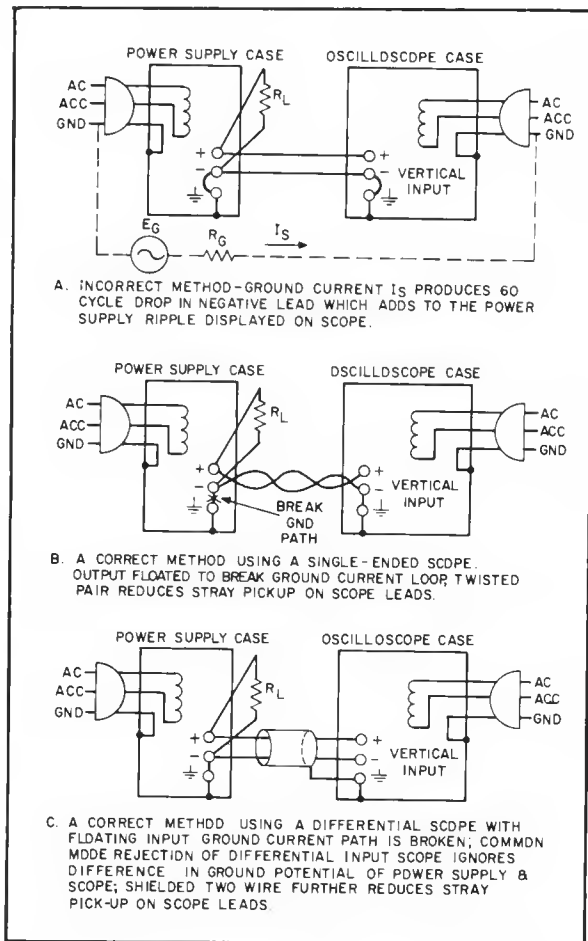

Figure 5-3. Ripple and Noise, Test Setup
- a. Connect test setup as shown in Figure 5-3.
**5-22 Ripple and Noise Measurement.** Figure 5-3 shows an incorrect method of measuring p-p ripple. Note that a continuous ground loop exists from the third wire of the input power cord of the supply to the third wire of the input power cord of the oscilloscope via the grounded power supply case, the wire between the negative output terminal of the power supply and the vertical input of the scope, and the grounded scope case. Any ground current circulating in this loop as a result of the difference in potential  $E_G$  between the two ground points causes an IR drop which is in series with the scope input. This IR drop, normally having a 60 Hz line frequency fundamental, plus any pickup on the unshielded leads interconnecting the power supply and scope, appears on the face of the CRT. The magnitude of this resulting noise signal can easily be much greater than the true ripple developed between the plus and minus output terminals of the power supply, and can completely invalidate the measurement.
5-23 The same ground current and pickup problems can exist if an RMS voltmeter is substituted in place of the oscilloscope in Figure 5-3. However, the oscilloscope display, unlike the true RMS meter reading, tells the observer immediately whether the fundamental period of the signal displayed is 8.3 milliseconds (1/120 Hz) or 16, 7 milliseconds (1/60 Hz). Since the fundamental ripple frequency present on the output of an HP supply is 120 Hz (due to full-wave rectification), an oscilloscope display showing a 120 Hz fundamental component is indicative of a "clean" measurement setup, while the presence of a 60 Hz fundamental usually means that an improved setup will result in a more accurate (and lower) value of measure ripple.
5-24 Figure 5-3 shows a correct method of measuring the output ripple of a constant voltage power supply using a single-ended scope. The ground loop path is broken by floating the power supply. Note that to ensure that no potential difference exists between the supply and the oscilloscope it is recommended that whenever possible they both be plugged into the same ac power buss. If the grounds must be at earth ground potential.
5-27 In most cases, the single-ended scope method of Figure 5-3 will be adequate to eliminate non-real components of ripple and noise so that a satisfactory measurement may be obtained. However, in more stubborn cases it may be necessary to use a differential scope with floating input as shown in Figure 5-3C. If desired, two single conductor shielded cables may be substituted in